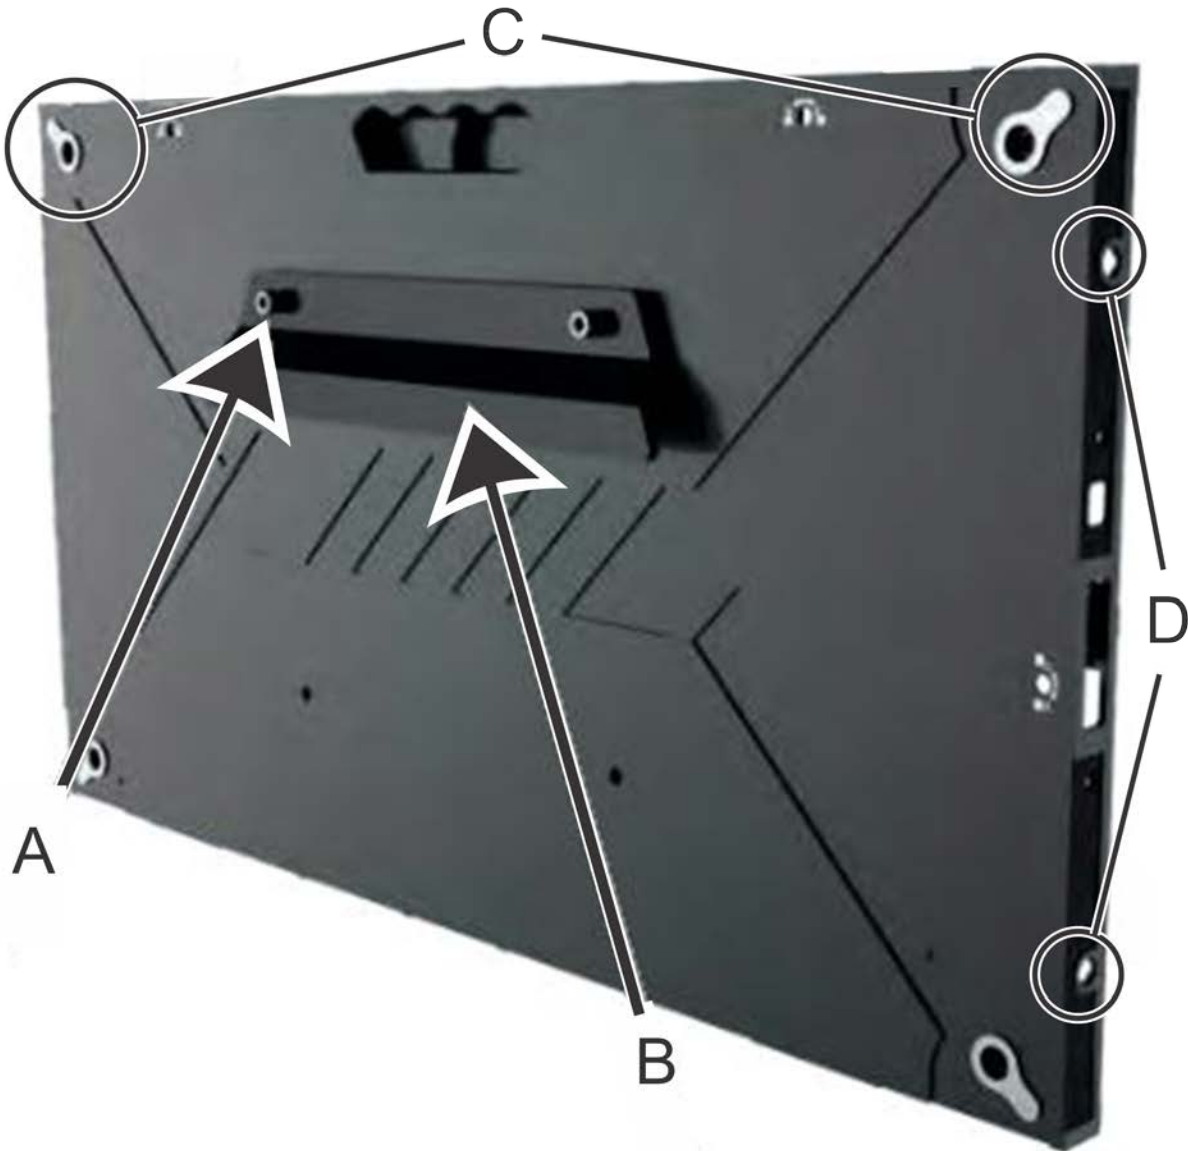

Figure 10
2. Install the Hook Plates on the column (see Figure 10).
- b. Use two M8x25 Hex-head bolts and flat metal washers (A) to mount the Hook Plates (B) to the identified Panels. Tighten to fit.
4. Remove the uppermost Locating Pins (C in Figure 10) from the top panels and the Spring Locking Pins (D) from the outer side of the leftmost column as seen looking from the front.